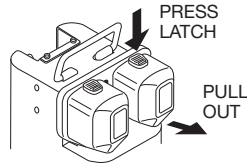

Figure 1
- 1) While pressing the latch, pull out the two batteries. (See Figure 1). To replace the two batteries push them back into place firmly.